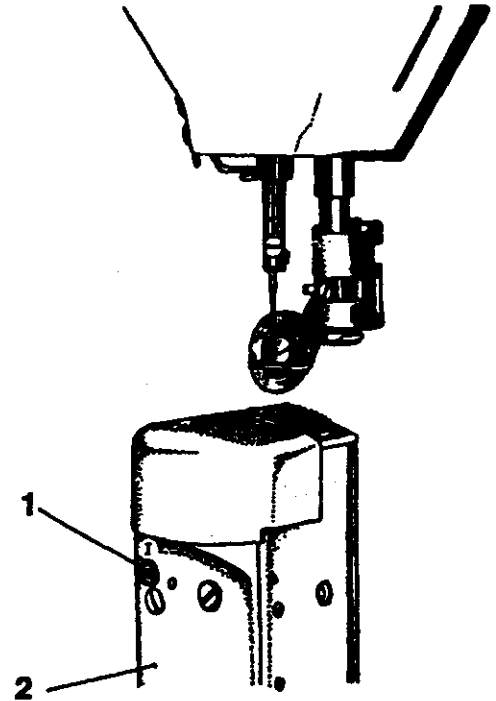

Fig. 5
6. To adjust hook lubrication (Fig. 5)